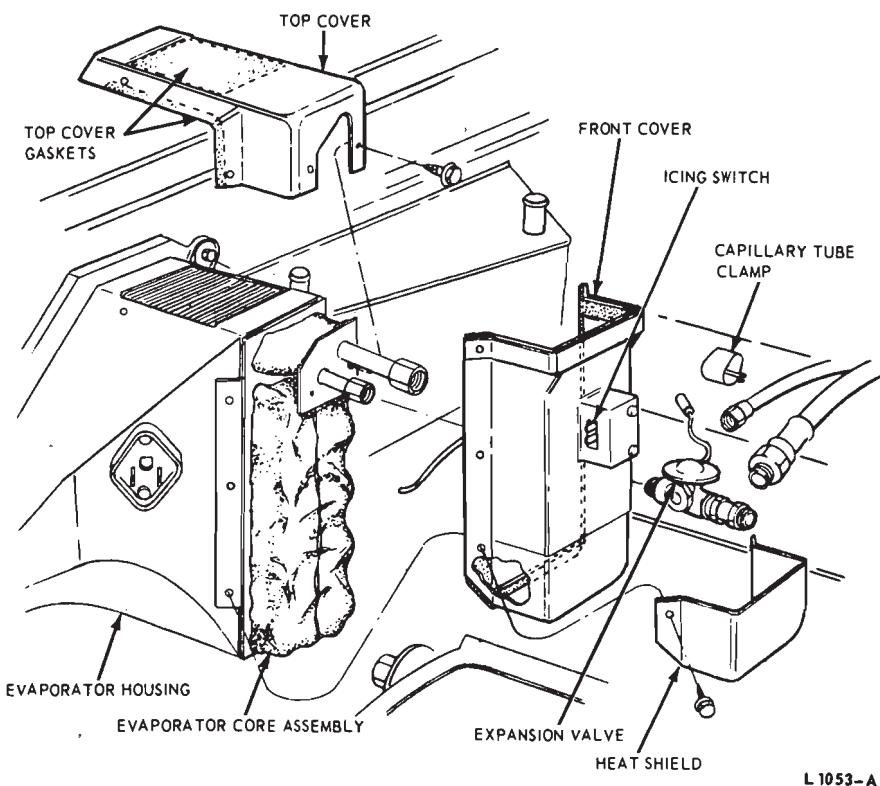

FIG. 35—Evaporator Covers—Ford, Mercury and Meteor
5. Remove the evaporator front cover and heat shield attaching screws (Fig. 35). Remove the front cover and heat shield. Use care when withdrawing the icing switch capillary tube from the evaporator core.
6. Remove the evaporator top cover from the evaporator core housing (Fig. 35).
5. Position the front cover to evaporator housing and insert the capillary tube straight into the hole in the evaporator core (Fig. 35). No bends in the capillary tube are permissible.
1. Disconnect the thermostatic (icing) switch and resistor (Fig. 35). Position the wire harness to one side.
2. Remove the six screws retaining the evaporator core cover and heat shield. Pull the sensing tube from the evaporator core. Remove the front cover with the switch (Fig. 35).
2. Insert the sensing tube straight into the hole in the evaporator core (Fig. 35). **No bends in the sensing tube are permissible.**
5. Remove six screws attaching the evaporator core front cover and heat shield to the evaporator housing. Pull the icing switch sensing tube from the evaporator core, and remove the evaporator front cover (Fig. 35).